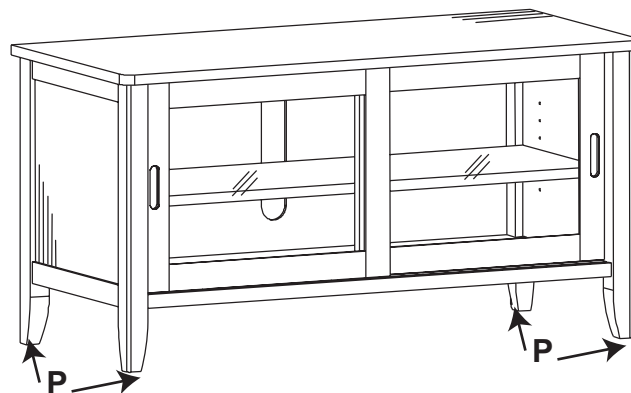

Fig. 13
13. Place the console at its final destination. Rotate the Small Adjustable Glides (P) found at the bottoms of the legs until the unit is level. See Figure 13.